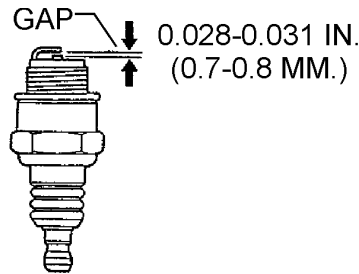

Figure 19. Spark Plug Gap
3. Remove and clean the spark plug (See Figure 19), then adjust the spark gap to 0.028~0.031 inch (0.6~0.7 mm). This unit has electronic ignition, which requires no adjustments.